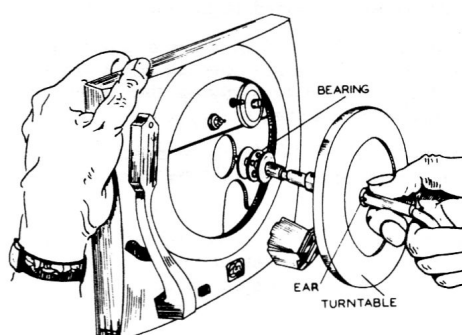

Figure 9
1. Slip the turntable over the lower end of the centerpost until it comes against the stop or ears. (Figure 9.)
2. Place the thrust bearing and washers on the bottom end of the centerpost and place the centerpost and turntable in position as shown. (Figure 9.)
2. Place the turntable in place with the center post extending down through the mounting as shown. (It is not necessary to have the thrust bearing in place for this operation.) (Figure 9.)